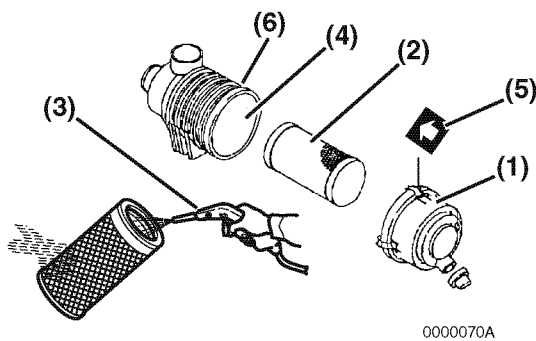
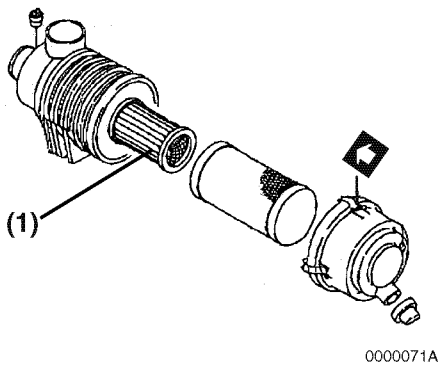

Figure 5-7
Figure 5-8
Note that a typical air cleaner is shown in **Figure 5-7** and **Figure 5-8** for illustrative purposes only.
1. Unlatch and remove the air cleaner cover (**Figure 5-7, (1)**).
2. Remove the element (**Figure 5-7, (2)**) (outer element if equipped with two elements).
3. Blow air (**Figure 5-7, (3)**) through the element from the inside out using 42–71 psi (0.29–0.49MPa, 3.0–5.0kgf/cm²) compressed air to remove the particulates. Use the lowest possible air pressure to remove the dust without damaging the element.
If the air cleaner is equipped with a double element, *only remove and replace the inner element (**Figure 5-8, (1)**) if the engine lacks power or the dust indicator actuates (if equipped)*. This is in addition to replacing the outer element.
6. Install the element into the air cleaner case (**Figure 5-7, (4)**).
7. Install the air cleaner cover making sure you match the arrow (**Figure 5-7, (5)**) on the cover with the arrow on the case (**Figure 5-7, (6)**).